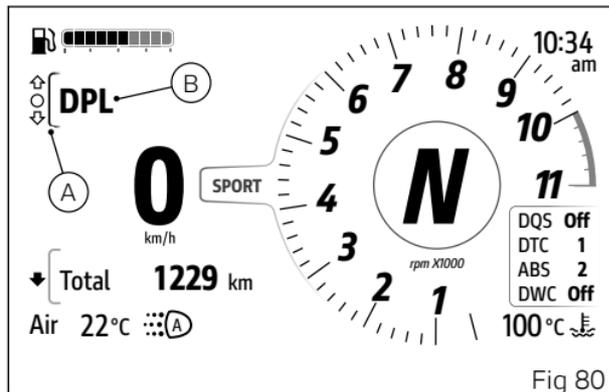

Fig 80
- Select the Interactive Menu (A, Fig 80) by pressing and holding button (1) pressed for a long time.
- Use buttons (1) and (2) to select item "DPL" (B, Fig 80) and press the ENTER button (3).